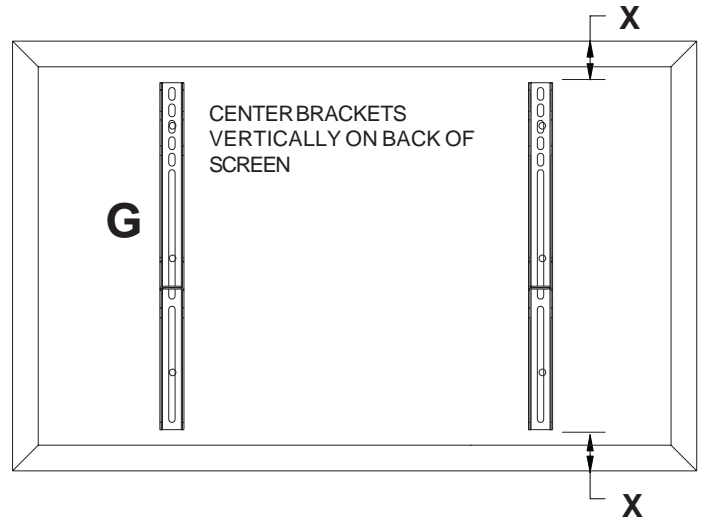
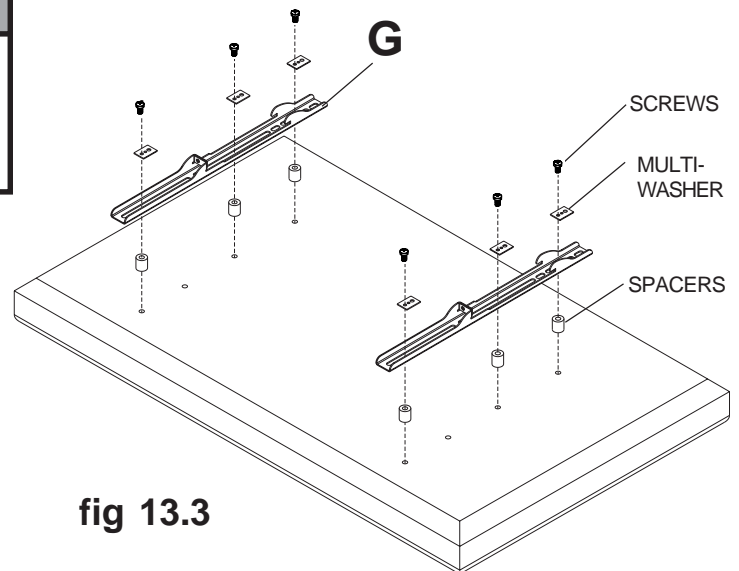

fig 13.1
fig 13.3
- 13** To prevent scratching the screen, set a cloth on a flat, level surface that will support the weight of the screen. Place screen face side down. If screen has knobs on the back, remove them to allow the adapter brackets to be attached. Place adapter brackets (**G**) on back of screen, align to holes, and center on back of screen as shown in figure 13.1. Attach the adapter brackets to the back of the screen using the appropriate combination of screws, multi-washers, and spacers as shown in figure 13.3.